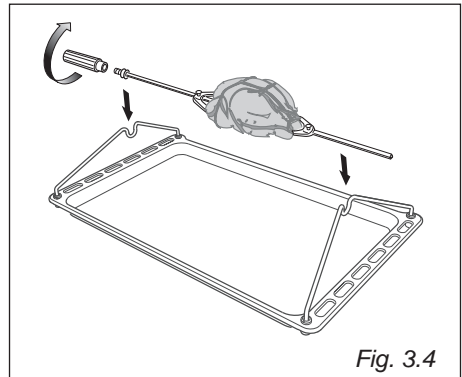

Fig. 3.4
3. Position the skewer on the support (fig. 3.4).